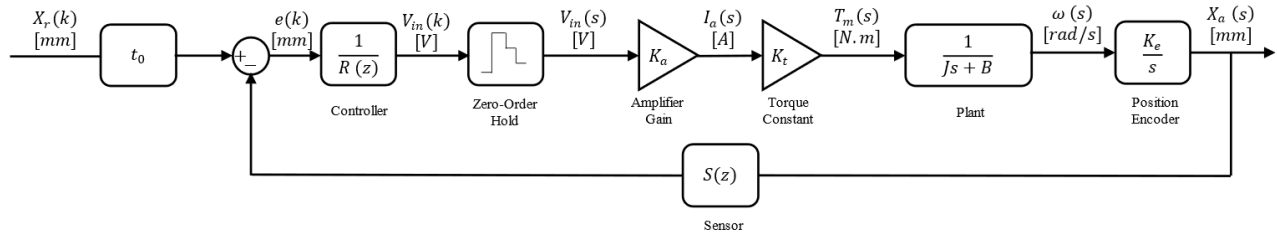

Fig. 3. Pole Placement control of the ball screw feed drive table
4. Design a Pole Placement controller (as shown in Fig. 3) to achieve a damping ratio of $\zeta_m = 0.8$ and a natural frequency of $\omega_m = 200$ rad/s.